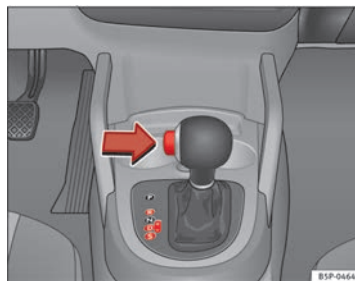

Fig. 149 Driving
- Press the button on the selector lever knob (on the left) → Fig. 149. ▶